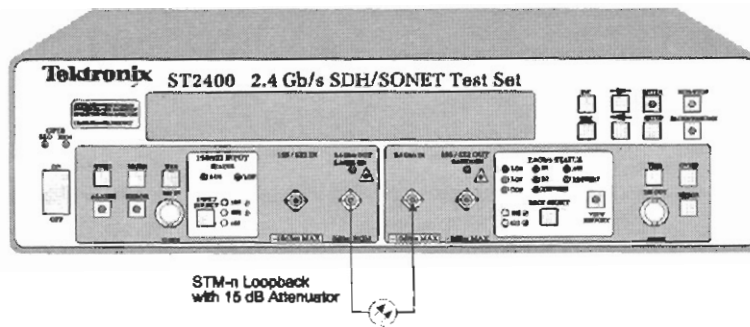

Figure 3–1 Functional Verification Test Setup
A functional verification of the **ST2400 2.4 Gb/s SDH/SONET Test Set** can be performed while reviewing this chapter. To do so, use an optical cable and a 15 dB attenuator connected between the transmitter laser output and the receiver laser input, as shown in Figure 3–1. To avoid damaging the receiver input always use a 15 dB attenuator in the loopback connection. Be sure to read and observe all of the appropriate safety rules and instructions in *chapters 1 and 2*.
Pressing the setup key at any time will cause the **ST2400 2.4 Gb/s SDH/SONET Test Set** to enter the Setup Menu System, accessing the menus and submenus shown in Figure 3–2 and Figure 3–3. Both the setup and the enter keys are used to navigate through this menu system. The left and right arrow keys, and the increment and decrement keys are used to change values. The enter key is also used to access submenus shown in both Figure 3–2 and Figure 3–3.
The left column of Figure 3–2 shows the seven main menus that make up the Setup main menu system. It is a continuous loop that begins with the XXXxx Quick Setup LCD display, whenever the setup key is pressed, and ends with the Auxiliary Setup display menu. As noted in the Figure 3–2, the word XXXxx will either be SDH or SONET. That choice is made in the System Configuration submenu shown at the bottom of Figure 3–3. This manual details the SDH features.
- AUXILIARY SETUP is the last of the seven main setup menus. Pressing the setup key will loop back to the QUICK SETUP (starting) menu. Pressing the enter key will access the auxiliary setup menu system shown in Figure 3–3 and described later in this chapter.